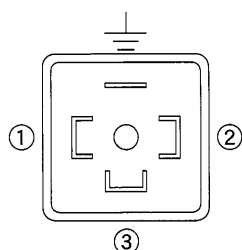

Fig2.
The connection of the electric wire connects it after removes a cable gland body. ( Please refer to the item 6 of manual ) Please refer to the Fig.2, connection diagram, for each use connecting wiring. Please be careful about the following matters;